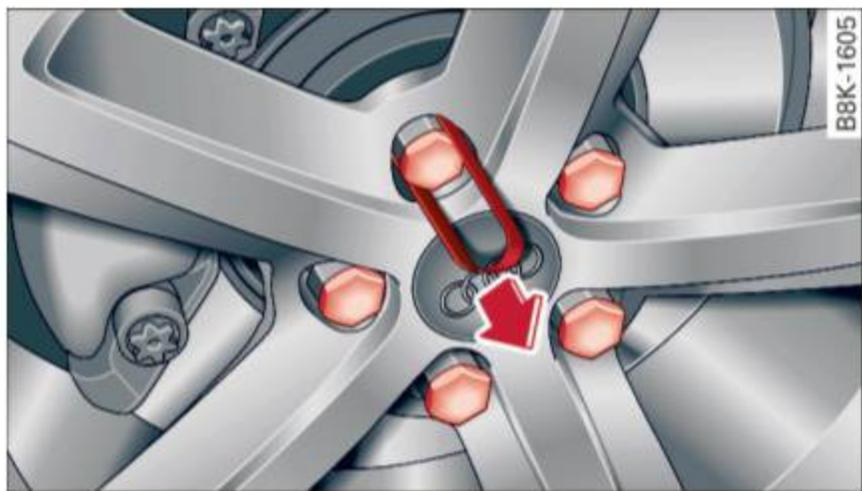

Fig. 176 Changing a wheel: removing the wheel bolt caps
- ▶ Pull on the **plastic clip** to remove the cap ⇒ *fig. 176*.